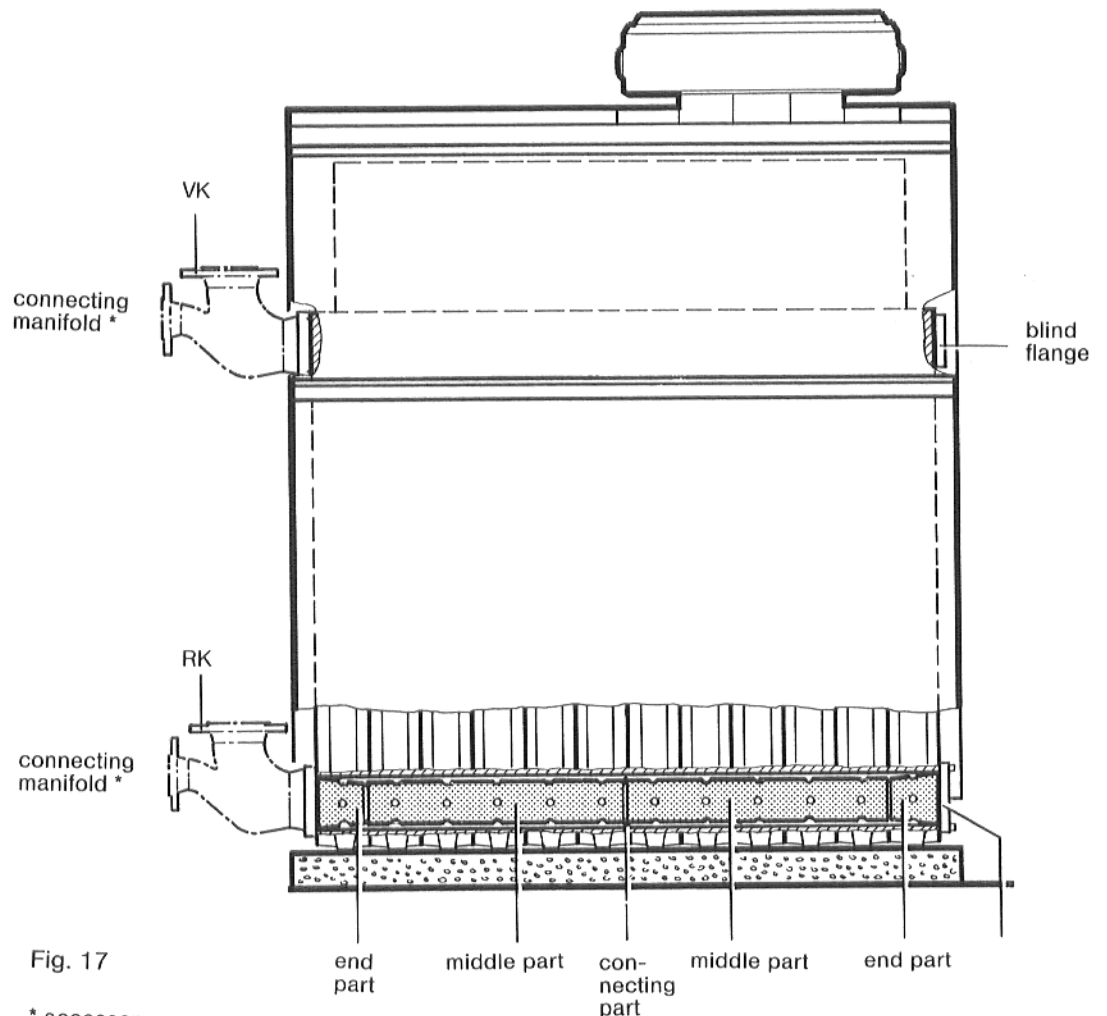

Fig. 17
Heating flow as well as heating return must always be connected to one side (Fig. 17).
4. Push the second end part (item 1) on the opposite side of the boiler in the lower boiler boss onto the middle part (item 2, 3 or 4) (Fig. 17).
5. Put a blind flange with seal onto the lower boiler boss and screw on (Fig. 17).